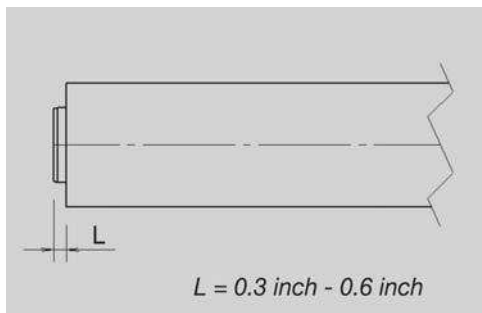

Figure 4.4 Vent section cutting
2. Cut the concentric vent section with regard to the instructions on the adhesive on the product see also figure 4.4.